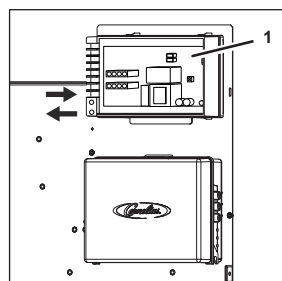

Figure 121
3. Slide control system 2 to the left and lift the control system (Figure 121/1) out of the unit.
4. Position the new control system 2 (Figure 121/1) within the unit.
5. Slide control system 2 (Figure 121/1) to the right and push control system 2 (Figure 121/1) down until control system 2 (Figure 121/1) locks into place.